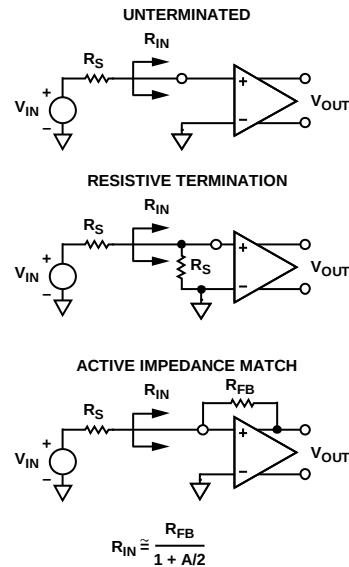
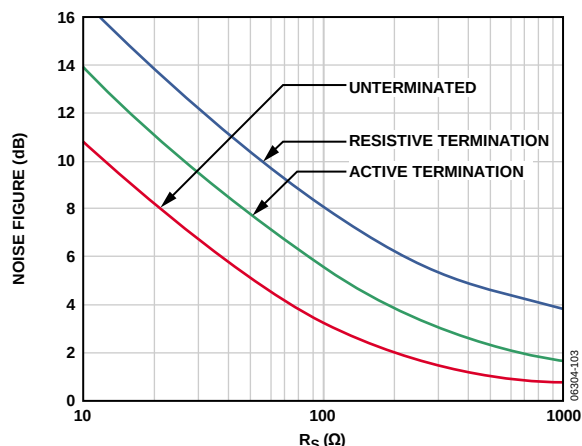
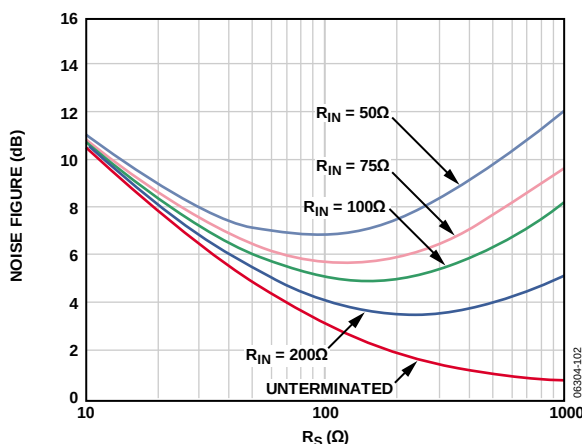

Figure 43. Input Configurations
Figure 44. Noise Figure vs. R_S for Resistive Termination, Active Termination Matched, and Unterminated Inputs, $V_{Gain} = 1$ V, 15.6 dB LNA Gain
Figure 45. Noise Figure vs. R_S for Various Fixed Values of R_{IN} , Active Termination Matched Inputs, $V_{Gain} = 1$ V, 15.6 dB LNA Gain
The short-circuit noise voltage (input-referred noise) is an important limit on system performance. The short-circuit noise voltage for the LNA is 1.2 nV/ $\sqrt{\text{Hz}}$ or 1.4 nV/ $\sqrt{\text{Hz}}$ (at 15.6 dB LNA gain), including the VGA noise. These measurements, which were taken without a feedback resistor, provide the basis for calculating the input noise and noise figure (NF) performance of the configurations shown in Figure 43. Figure 44 and Figure 45 are simulations of noise figure vs. R_S results using these configurations and an input-referred noise voltage of 4 nV/ $\sqrt{\text{Hz}}$ for the VGA. Underterminated ($R_{FB} = \infty$) operation exhibits the lowest equivalent input noise and noise figure. Figure 45 shows the noise figure vs. source resistance rising at low R_S —where the LNA voltage noise is large compared with the source noise—and at high R_S due to the noise contribution from R_{FB} . The lowest NF is achieved when R_S matches R_{IN} .
The primary purpose of input impedance matching is to improve the transient response of the system. With resistive termination, the input noise increases due to the thermal noise of the matching resistor and the increased contribution of the LNA's input voltage noise generator. With active impedance matching, however, the contributions of both are smaller (by a factor of $1/(1 + \text{LNA Gain})$) than they would be for resistive termination. Figure 44 shows the relative noise figure performance. In this graph, the input impedance was swept with R_S to preserve the match at each point. The noise figures for a source impedance of 50 Ω are 7.1 dB, 4.1 dB, and 2.5 dB for the resistive termination, active termination, and unterminated configurations, respectively. The noise figures for 200 Ω are 4.6 dB, 2.0 dB, and 1.0 dB, respectively.
Figure 45 shows the noise figure as it relates to R_S for various values of R_{IN} , which is helpful for design purposes.